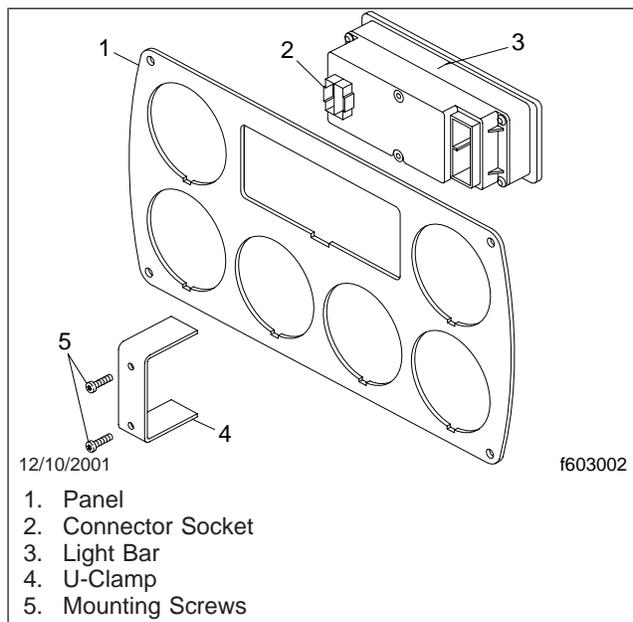

Fig. 1, Light Bar Mounting
3. Remove the Torx®-head screws securing the gauge mounting panel to the dash. See **Fig. 1**.